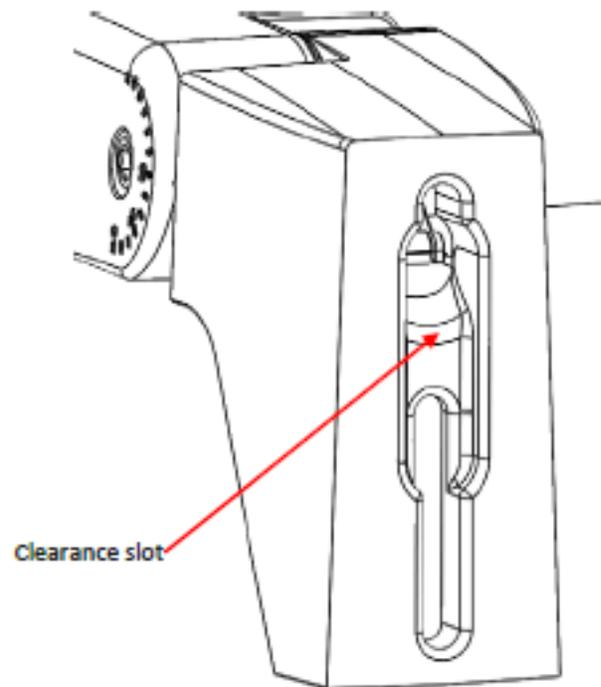

Figure 7
5. The luminaire is supplied with a clearance slot in the back to allow wires to be pulled into the pole on existing hole patterns. Insert the wires through the clearance slot shown in Figure 7 and pull them into the pole.